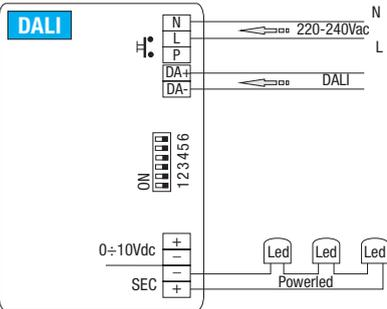

Fig. 2 - RN9168/DALI - RN9168AV/DALI
B - Funzione 0÷10Vdc (S10) - DIM34... (R) - Fig. 2 - Tramite segnale di controllo 0÷10Vdc
B - 0÷10Vdc (S10) function - DIM34... (R) - Fig. 2 - By means of control signal 0÷10Vdc